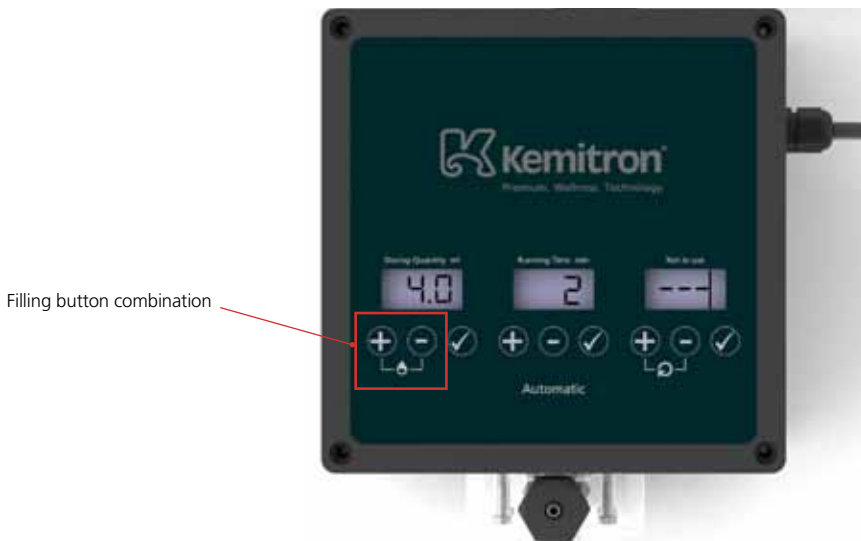

Figure 14: Filling button combination display dosing pump
3. Press and hold down the filling button combination  on the display of the dosing pump. Filling button combination , see red frame, Figure 14.